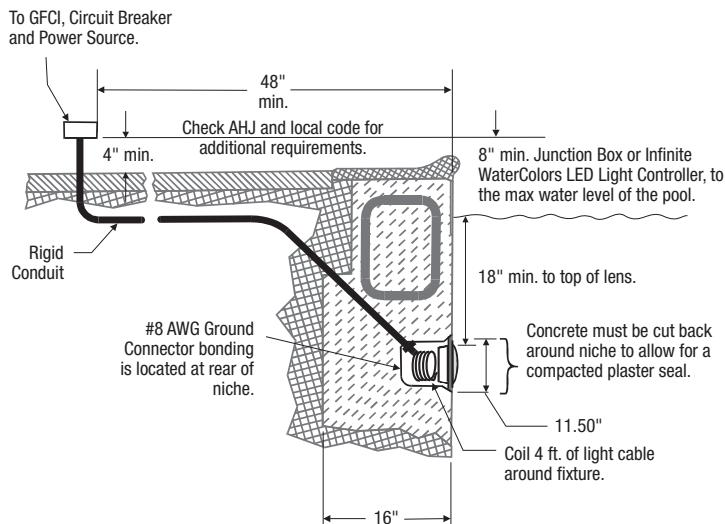

Figure 1. Jandy Infinite WaterColors Light Installation
**NOTE:** The electrician must complete preparatory steps before light fixture is installed. See *Figure 1*.
1. The junction box or Infinite WaterColors LED Light Controller suitable for direct conduit connection to lights must be located at least (8) inches above water level, at least four (4) inches above ground level, and at least (48) inches (4) feet from the edge of the pool, or as required by local code, see *Figure 1*.
2. The light fixture and all metal items within five (5) feet of the pool must be properly electrically bonded to a reliable point of grounding.
3. The wet niche must be properly installed so that the top edge of the underwater light's lens is at least (18) inches below the surface of the water in the pool. See *Figure 1*.
4. The wet niche must be properly electrically bonded and grounded via the No. 8 AWG ground connector located at the rear of the niche. See *Figure 1*.
1. Feed cord through conduit to junction box, leaving at least four (4) feet of cord at the light fixture to coil into the base of the light niche, see *Figure 1*. The four (4) feet of cord allows the light to be serviced after the pool is filled with water.
2. Cut the cord at the junction box, leaving at least six (6) inches of cord to make connections.
3. Strip six (6) inches of the outer cord jacket to expose the three insulated wires. *Be careful not to damage the insulation on the three (3) inner wires.*
1. The junction box or Infinite WaterColors LED Light Controller suitable for direct conduit connection to lights must be located at least (8) inches above water level, at least four (4) inches above ground level, and at least (48) inches (4) feet from the edge of the pool, or as required by local code. *Figure 1.*
3. The wet niche must be properly installed so that the top edge of the underwater light's lens is at least (18) inches below the surface of the water in the pool. See *Figure 1.*
4. The wet niche must be properly electrically bonded and grounded via the No. 8 AWG ground connector located at the rear of the niche. See *Figure 1.*
5. Leave at least four (4) feet of cord to coil around the light fixture or coiled into the base of the light niche, see *Figure 1*. This allows the light to be serviced after the pool is filled with water.
6. Cut the cord at the Junction Box, leaving at least six (6) inches of cord to make connections.
7. Strip six (6) inches of the outer cord jacket from the cord to expose the three insulated wires. *Be careful not to damage the insulation on the three (3) inner wires.*